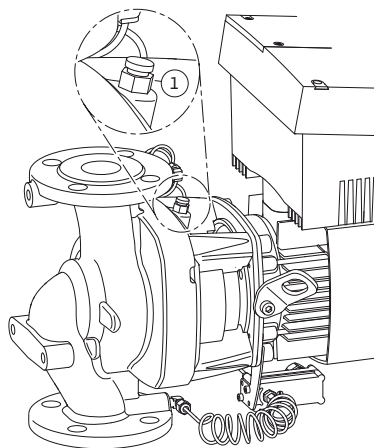

Fig. 40: Bleed valve
- Bleed the pumps by releasing the bleed valves (Fig. 40, Item 1). Dry running destroys the mechanical seal of the pump. The differential pressure sensor must not be bled (risk of destruction).